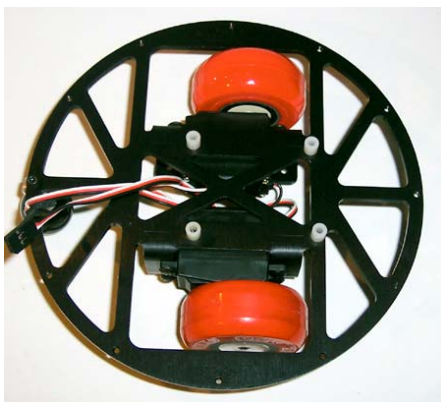

Figure 15
Place the four Motherboard Spacers (10) over the tapped holes in the center of the Mouse chassis as shown in Figure 15.